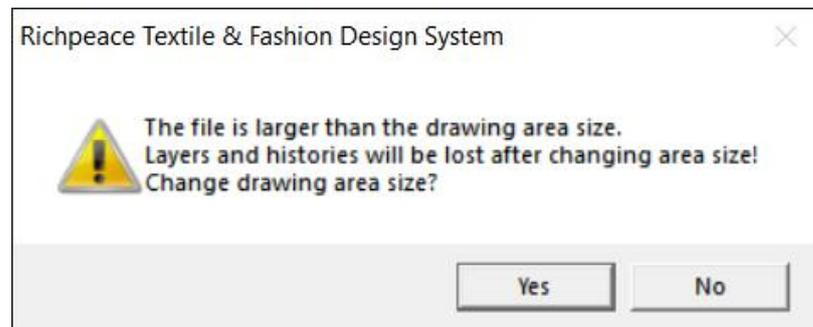

Figure 4-5
(1) If you choose to keep the content, the current document keeps the opened content.
(2) If you choose to retain content and retain layers, the content and layers created by the current document will be retained.
(3) If not selected, a prompt dialog box will appear (Figure 4-5), prompting that the document size is larger than the drawing area, and changing the drawing area will lose layers and historical data: